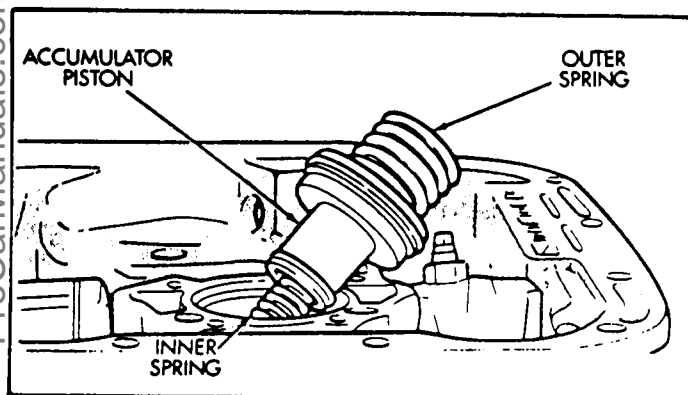

Figure 145
41. Install accumulator piston, and inner and outer springs into the case, as shown in Figure 145.